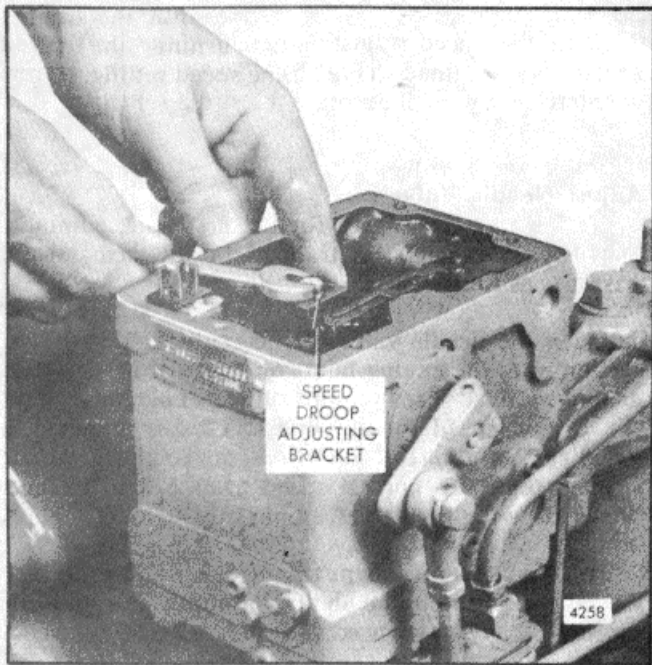

Fig. 7. - Adjusting Speed Droop
3. Loosen the speed droop adjusting bracket screw and move the bracket (Fig. 7) slightly to obtain the desired droop; moving the bracket toward the flyweight end of the actuator will increase the droop. Tighten the screw.